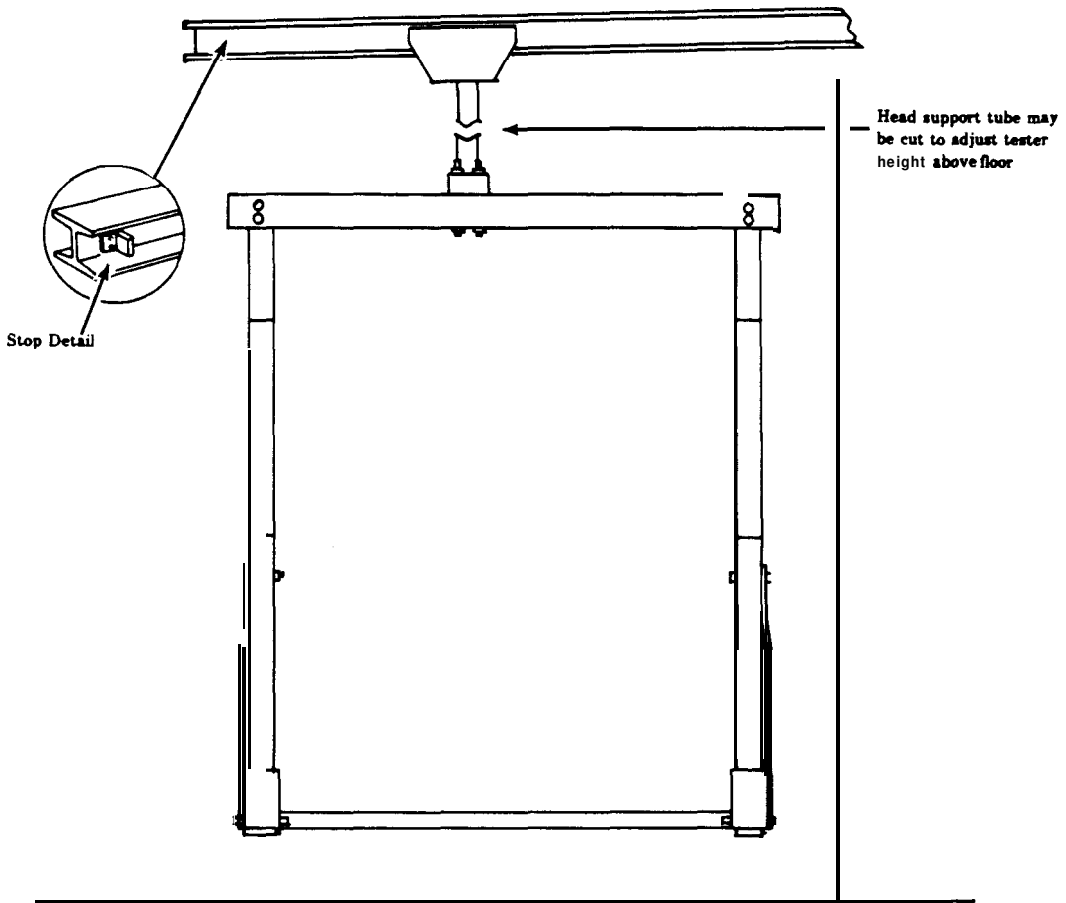

FIGURE 2
The HSK-40 is designed for use with a standard 5" I beam with a 3" flange width. This typical beam weighs approximately 10 pounds per foot of length. .4 larger beam may be used. However, it will then be necessary to shim the trolley to accommodate the greater flange width. The height at which the beam should be mounted above the floor is determined by the following but should not exceed 140" from floor to bottom of flange: See Figure 2
6. Drill two 7/16" holes in the each end of the I-beam as shown in Figure 2.
7. Using the items 11, 12, 13, 14, and 15, mount the end stops on each end of the I-Beam. See Figure 2.